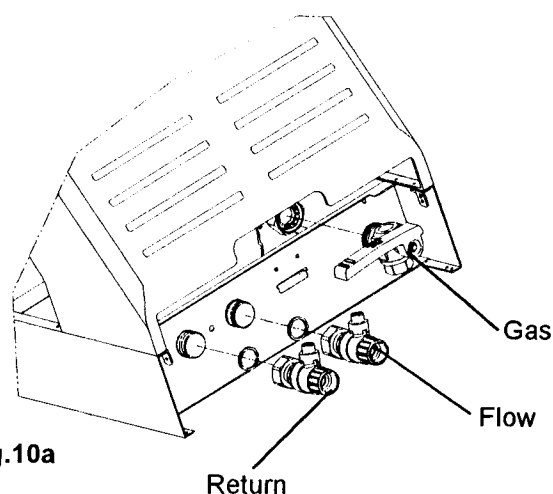

Fig.10a
5.3.4 Loosely fit (hand tight) the valves and fittings using the washers supplied (Fig.10a).
5.6.1 Figs. 10a & 18 show the locations of the fittings.